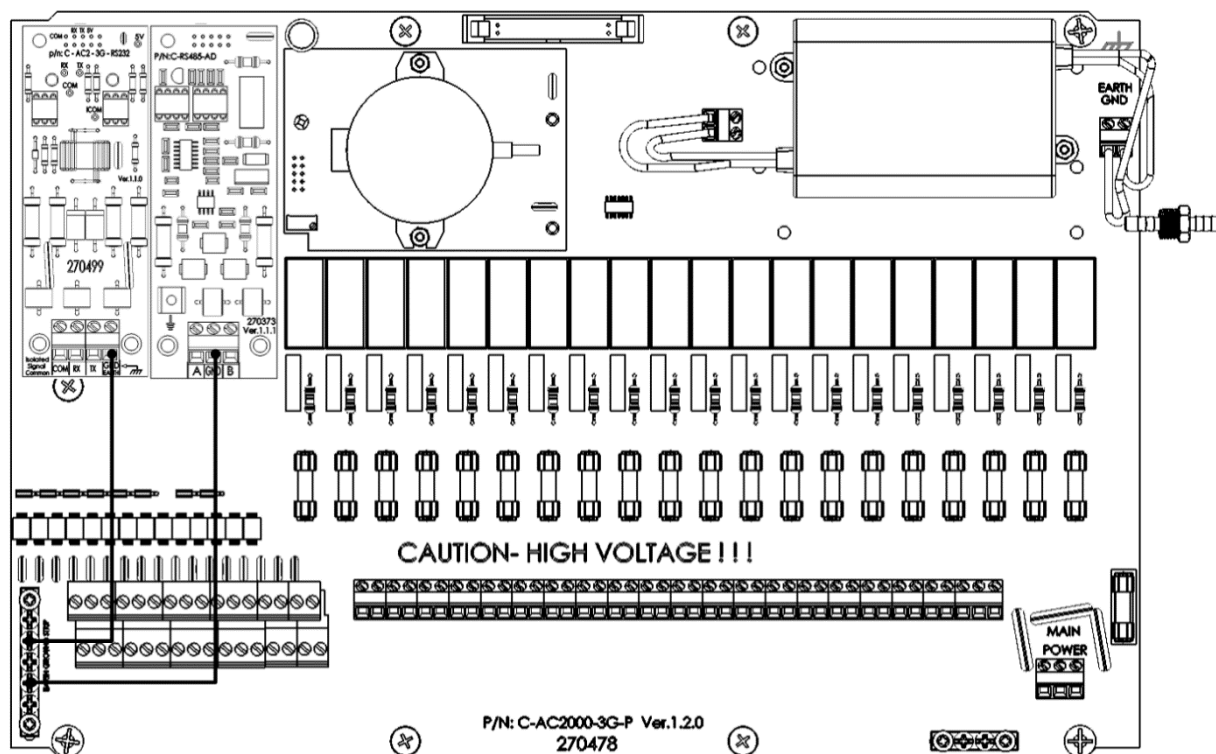

Figure 19: Communication Card Grounding
- Ensure that a grounding wire runs from the communication card to the ground strip as shown in Figure 19.
- If you need to replace the communication card, connect a grounding wire as shown in Figure 19.